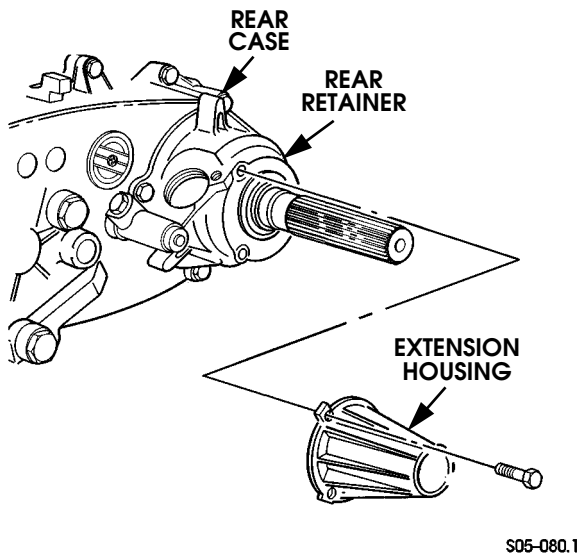

Figure 5-86: Extension Housing Removal
4. Remove extension housing (Figure 5-86).